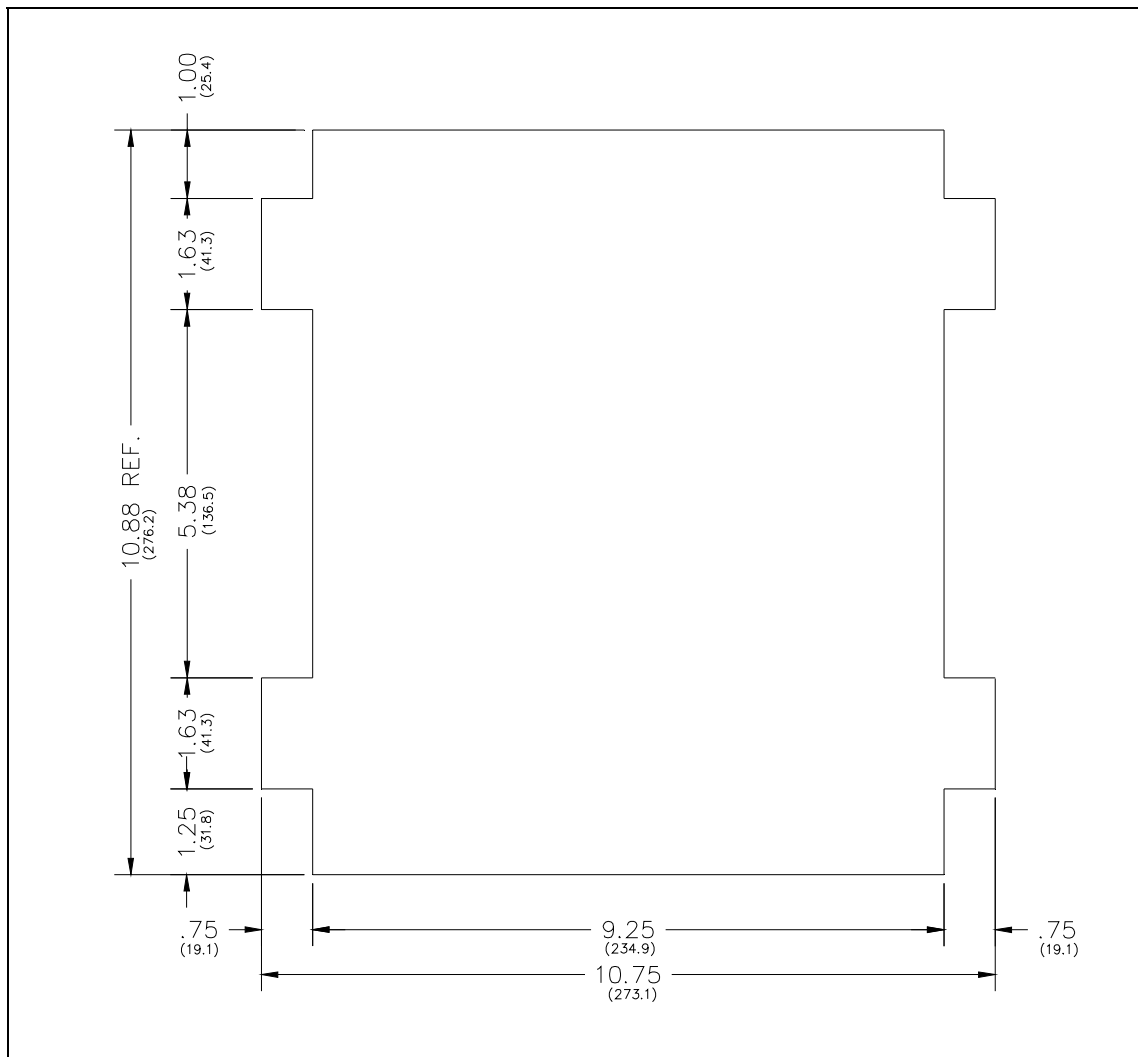

Figure 5. Wall Cut-out Dimensions for Model 295-001F
2. Refer to Figure 5 on page 12 for cut-out details. Use the cut-out dimensions as a guide to mark the wall, and make the required cuts.